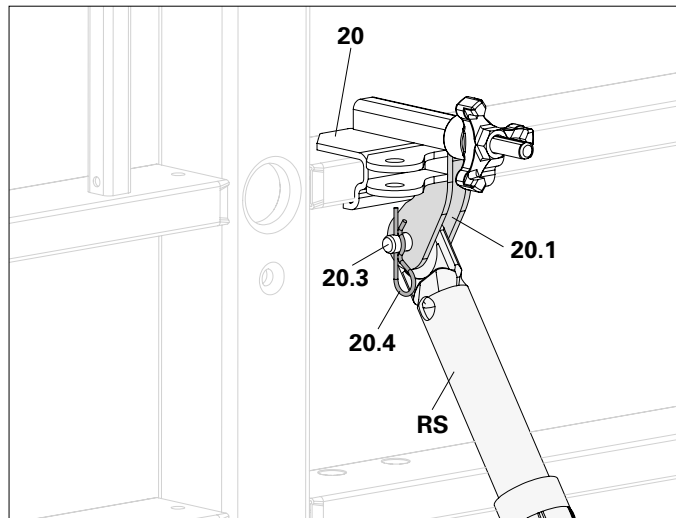

Fig. A6.01c
- Horizontal assembly of the clamping head: connect Push-Pull Prop (RS) and connection lugs (20.1) with bolts (20.3) and cotter pins (20.4). (Fig. A6.01c)